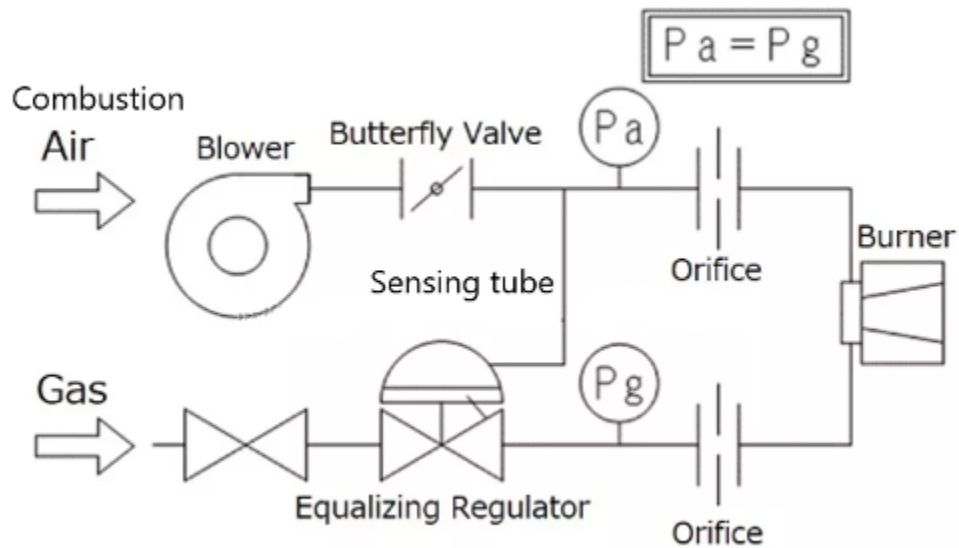

Figure 40. Nozzle mixer schematic
For nozzle mix burners a ratio (equalizing) regulator supplies gas to a burner at a pressure that is in direct (1:1) proportion to the air pressure supplied to the burner (Figure 40). As the air pressure to the burner increases, then the ratio regulator causes the gas pressure at the gas limiting orifice to increase. Conversely, if the air pressure decreases, then the gas pressure decreases. A ratio regulator is a zero governor regulator with a sensing tube connected to the regulator bleed vent. This line loads the air pressure into the diaphragm chamber, causing the loading element force to increase. The result is a gas pressure setpoint that will match the combustion air pressure. When there is no air pressure this zero governor type regulator will return to the closed position.
- Figure 40.”Nozzle mixer schematic (https://www.alibaba.com/product-detail/Japanese-Reasonable-Price-Natural-Gas-Pressure_1700003039622.html)” from ITO Corporation is used for educational purposes under the basis of fair dealing.